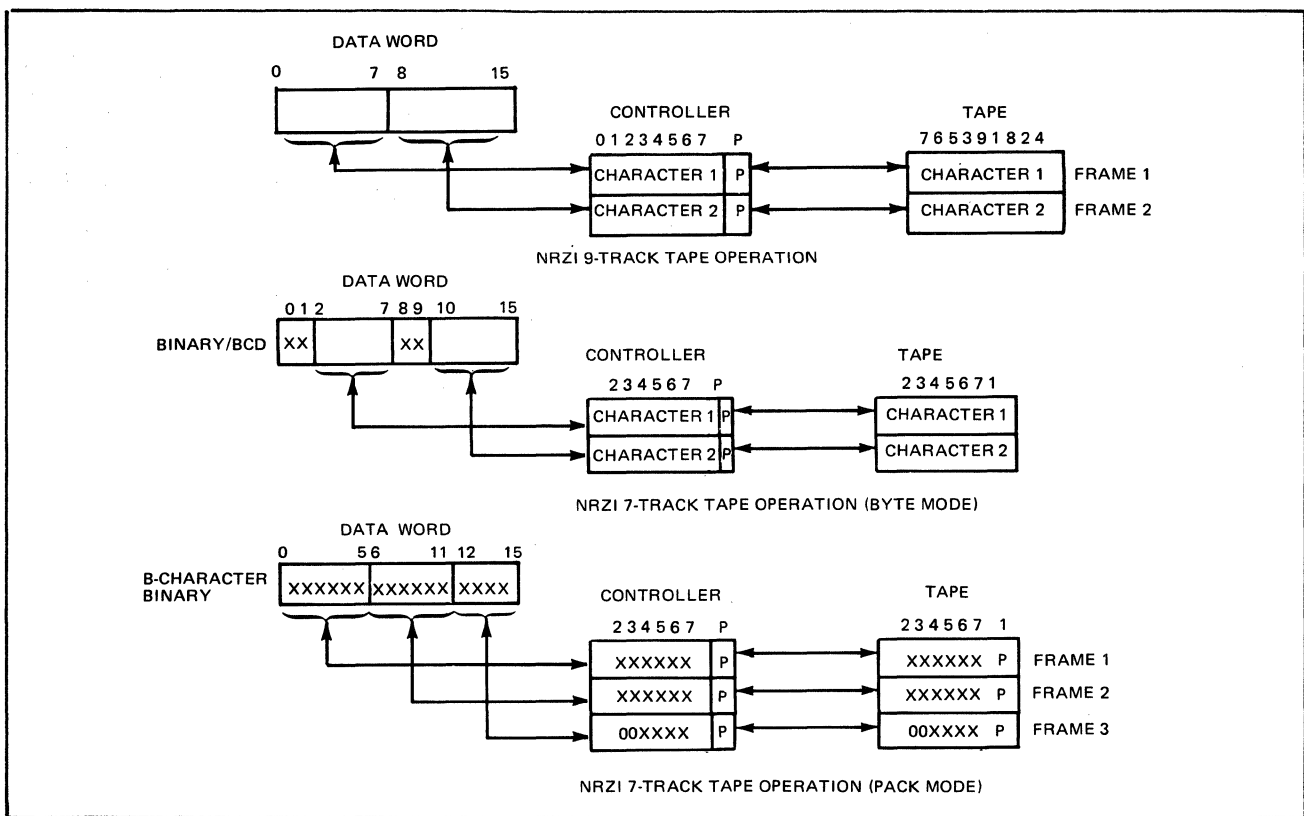

Figure 2-4. Data Formats
- *Byte Mode* — Transfers 12 bits (of 16) of a data word to or from the tape as shown in Figure 2-4 (the four nonsignificant bits — bits 0, 1, 8, and 9 of the memory word — are ignored on writes and zero-filled on reads from tape).
- *Pack Mode* — Transfers three characters between memory and the tape. On writing tape, the controller generates two bits (zeros) to complete the six bits of the third character. On reading tape, the controller strips off these two bits (Figure 2-4).
Data being written on or read from tape is handled on a byte basis. All 16 bits of a data word are transferred to or from the tape as shown in Figure 2-4. Odd parity (vertical redundancy check) is written on tape and is checked when read.
- **Write Tape Mark** — This command results in the drive erasing tape in the forward direction producing a 2-inch gap on the tape followed by the recording of a Tape Mark block if the most recent Output Task command was a "write order." If otherwise, an erase in the forward direction over approximately two inches precedes the write tape mark operation (2-inch erase plus write tape mark block). The tape mark format for 9-track tape is shown in Figure 2-4. An attempt to write a Tape Mark Block on a tape unit in Write Protect results in no tape motion initiated or block written and the activation of the Operation Check bit of Status Word 1. The order terminates when the tape is positioned in the gap beyond the Tape Mark Block.